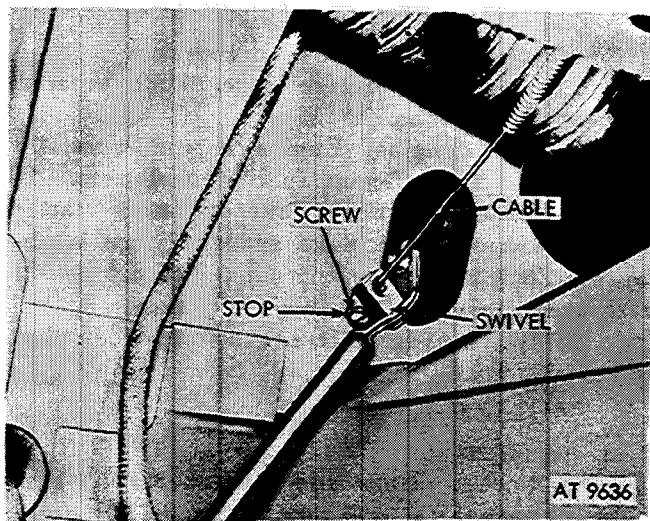

Figure 2-106. Remove throttle control cable from swivel.
(1) Loosen setscrew on stop and remove throttle control cable from swivel (fig. 2-106).
c. *Adjustment.* Refer to figures 2-106 and 2-107 and proceed as follows:
(1) Loosen setscrew at cable stop.
(2) Set hand throttle control knob 1 / 16 inch out from dash panel.
(3) Adjust throttle control cable so throttle control plate at carburetor is in fully closed position.
(4) Tighten setscrew.